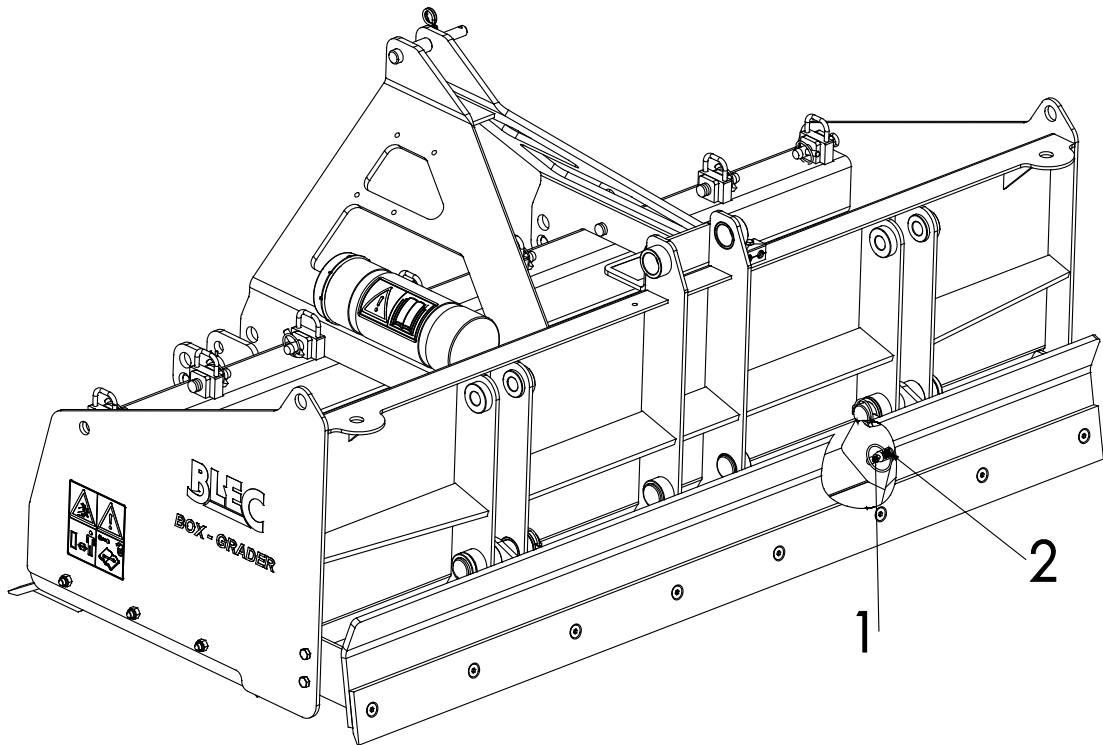

Figure 12
The Box Scraper knife is suspended in a hinged manner (Figure 12). If required, it is possible to block the knife. You can do this by putting the pins (1) in the hole and to secure these using the locking clip (2) included in the delivery.